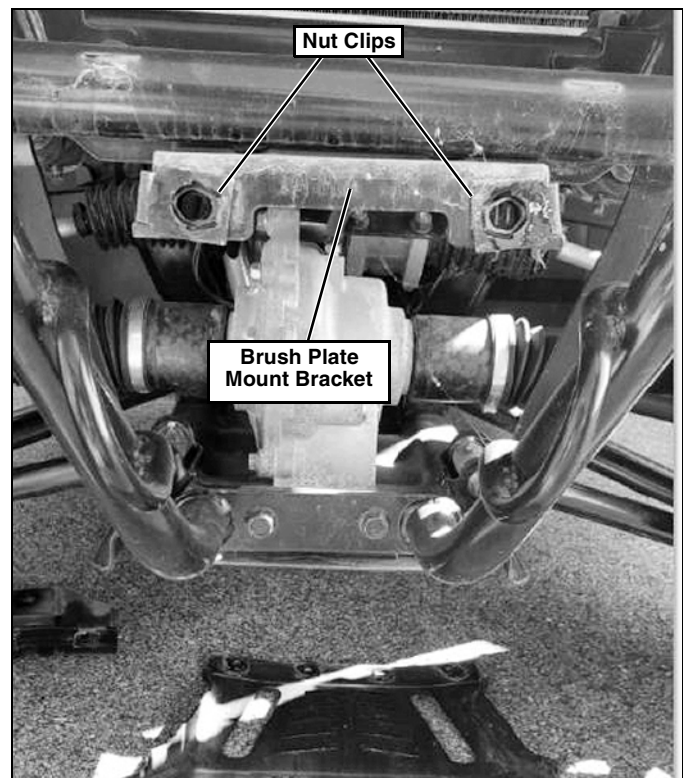

Figure 2
2. Remove the two nut clips to be installed later. (See Figure 2.)
3. Remove the Brush Plate Mount Bracket and keep to re-install if the plow mount is ever removed. (See Figure 2.)